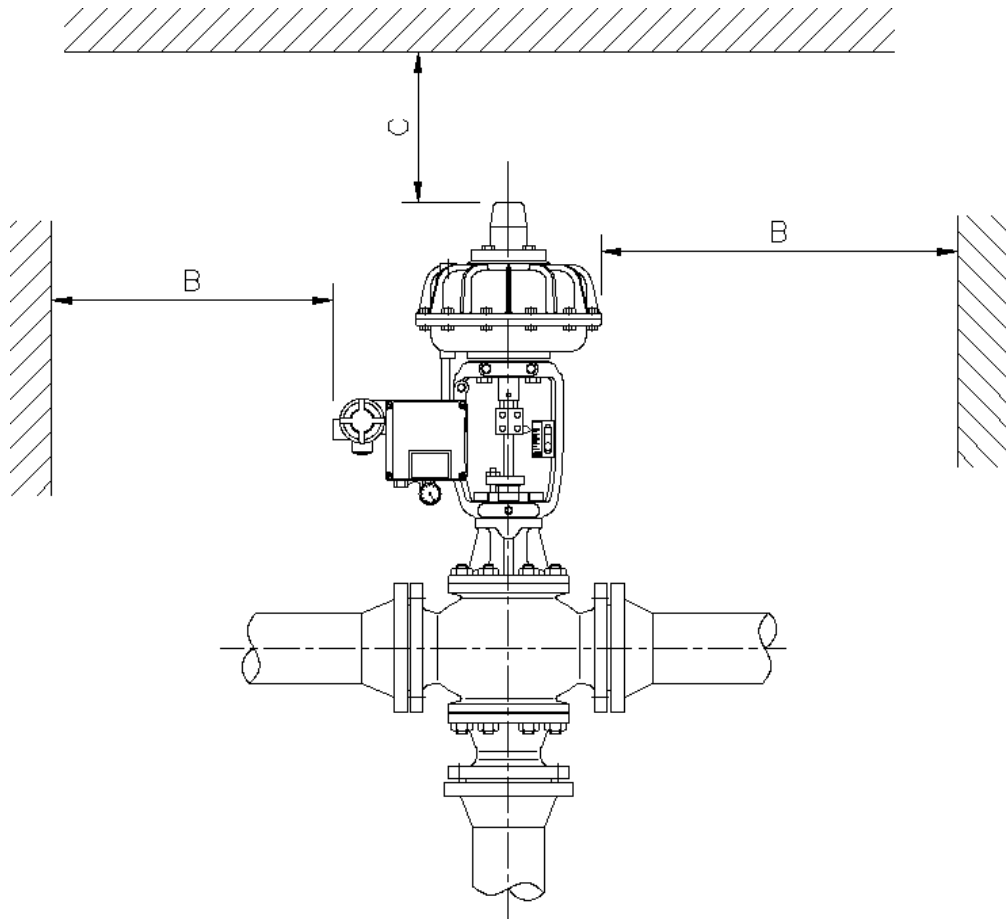

Fig 3.4 Space required for control valve installation
- G) A minimum space is required for maintenance of the valve installation area. (See Fig 3.4) In addition, a space for manual operation is required if a manual hand wheel has been installed.